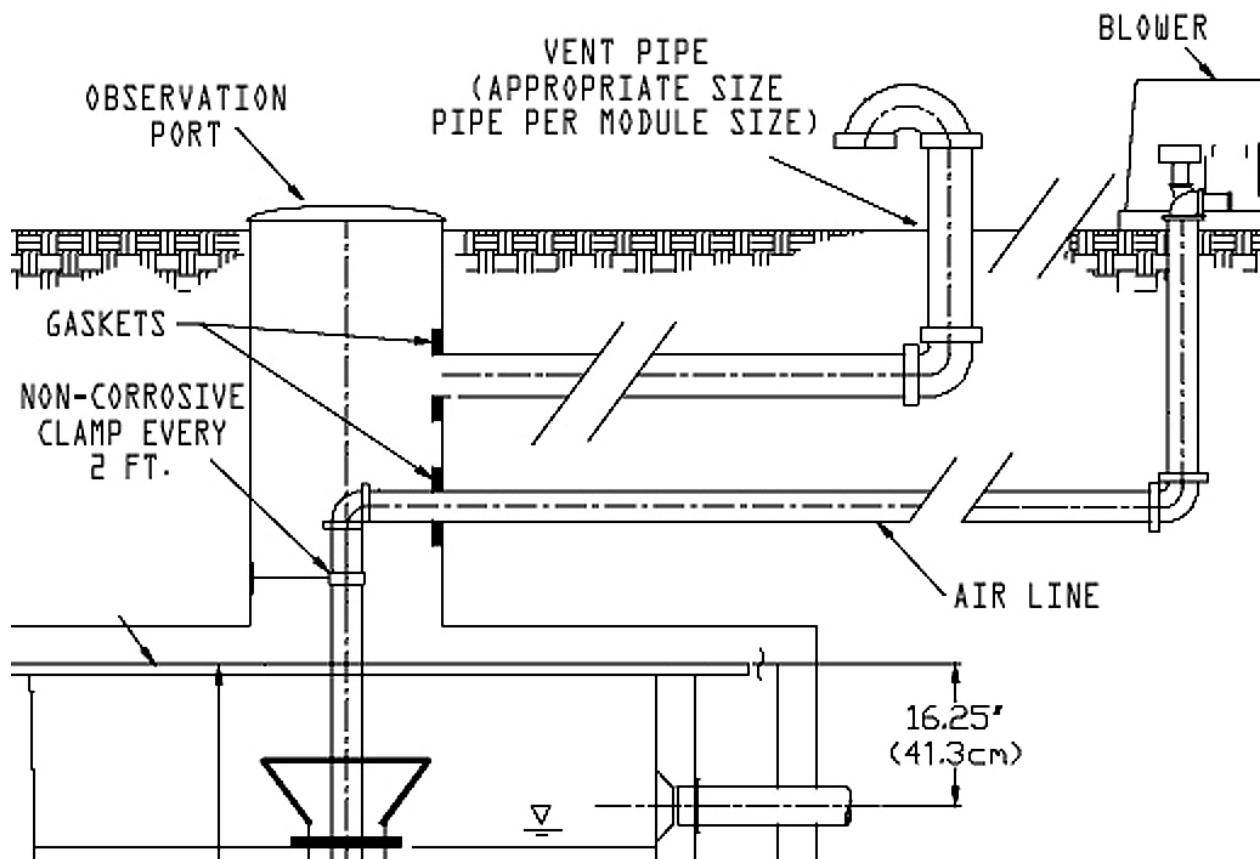

FIGURE 5
3. **INITIAL AIR LINE INSTALLATION:** Cut a piece of 2" min. non-corrosive pipe (3" min. for all 4.5 and 9.0 modules) to be used as the air line entering module lid and insert, to the desired length (or longer). Refer to FIGURE 5 below.
4. **If using the module lid,** bevel and soap the air pipe. Insert factory provided gasket in air line hole in module lid. Insert beveled and soaped end of pipe through module lid. Using 6" hole in module lid, reach inside module and thoroughly clean all pipe soap from the lower 6" of air line or leave the cover up off of the liner to have access to clean and glue the pipe. When complete, slide cover down the pipe to the liner. Using PVC primer and glue, secure air line into coupling at top of draft tube in module insert. (Be sure to follow instructions on PVC primer/glue container(s)). If cover was left up, slide it down on the pipe to the liner. Refer to FIGURE 5 on page 14.
5. **If module lid is not used,** then permanently secure an appropriately-sized air supply line into the top of the FAST airlift with sufficient length to extend through the tank cover. Secure air line with non-corrosive clamp every 2' or greater, so as to prevent damage to the system from pipe vibration. Refer to FIGURE 5 for reference. Place tank cover in appropriate position, and cut air line pipe to desired length.
6. **OBSERVATION PORT INSTALLATION (without LID):** Bevel and soap the end of a 6" Sch 40 PVC pipe to be used as observation port/vent. Insert 6" factory provided gasket into observation port access hole in module lid. Insert pipe until it stops, which should be 2" inside module lid. (DO NOT PUSH ALL THE WAY DOWN TO MEDIA SURFACE!) (see FIGURE 5).
- B. **OPTION B:** Attach appropriately-sized vent pipe to FAST observation riser. Vent/riser connection should be water-tight seal. Run vent to desired location. See FIGURE 5 as reference of piping configuration.
- D. Turn on the blower and observe the operation of the airlift through the observation port. (See figure 5).